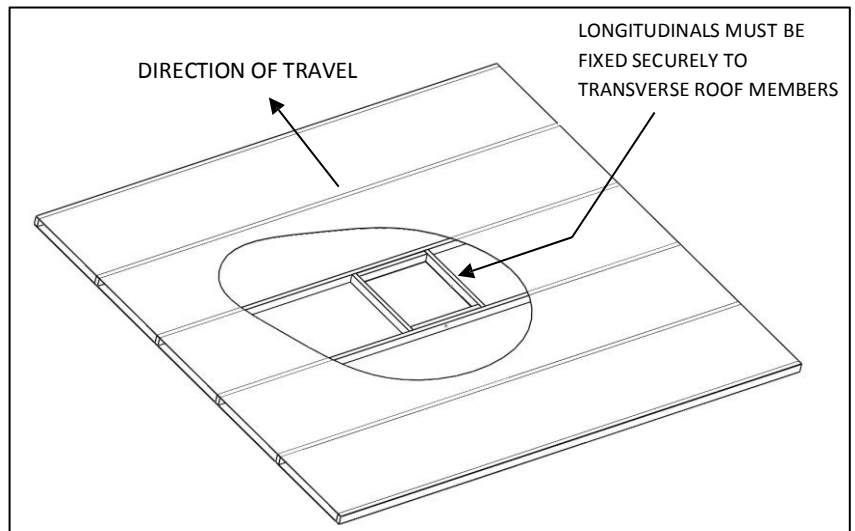

Fig 3: Shows an ideal roof structure with strong longitudinals and a 14” hole boxed
- The square hole in the roof (14” x 14” nominal 360 x 360mm), **MUST** be boxed up with minimum 20mm square timber to provide a structure strong enough to withstand the compression of the installation bolts. This is also to ensure that air is not drawn in from the roof cavity (Fig 3 & 4). Remember to leave access for wiring.
- Longitudinals **MUST** be fixed securely to the transverse roof members to transfer load (see Fig 3).